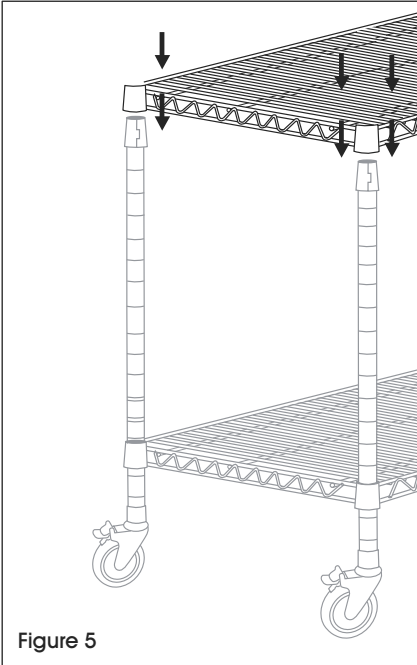

Figure 5
4. Determine the height of the next shelf, snap on supports then add and secure shelf. (See Figure 5)